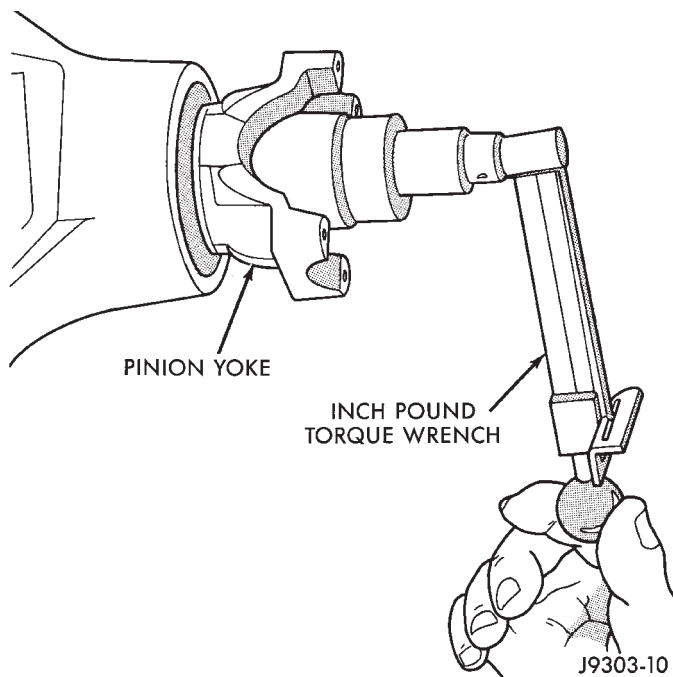

Fig. 23 Check Pinion Gear Rotation Torque—Typical
(9) Slowly tighten the nut in 6.8 N·m (5 ft. lbs.) increments until the rotating torque is achieved. Measure the rotating torque frequently to avoid over crushing the collapsible spacer (Fig. 23).
(10) Check rotating torque with an inch pound torque wrench (Fig. 23). The torque necessary to rotate the pinion gear should be: